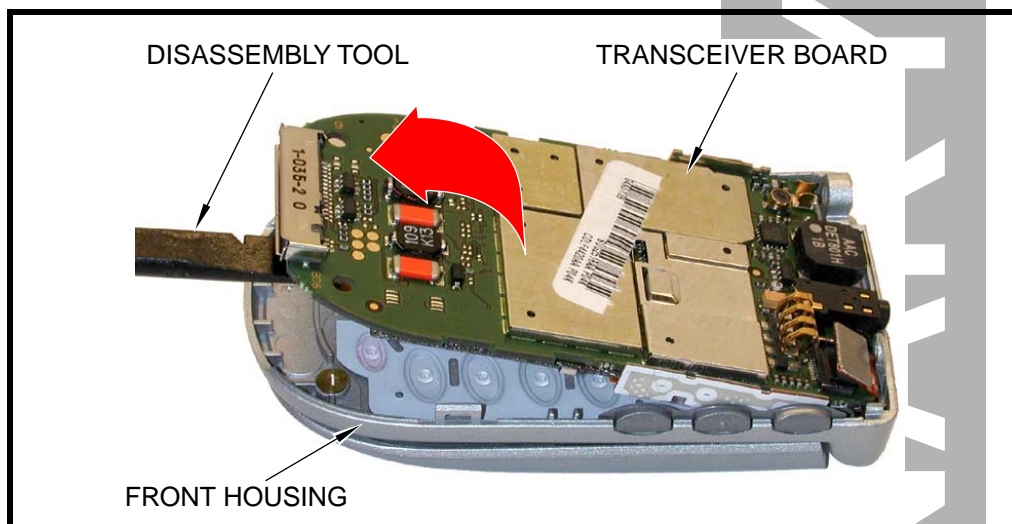

Figure 13. Removing the transceiver board assembly
3. Lift the transceiver board assembly from the front housing. See Figure 13.